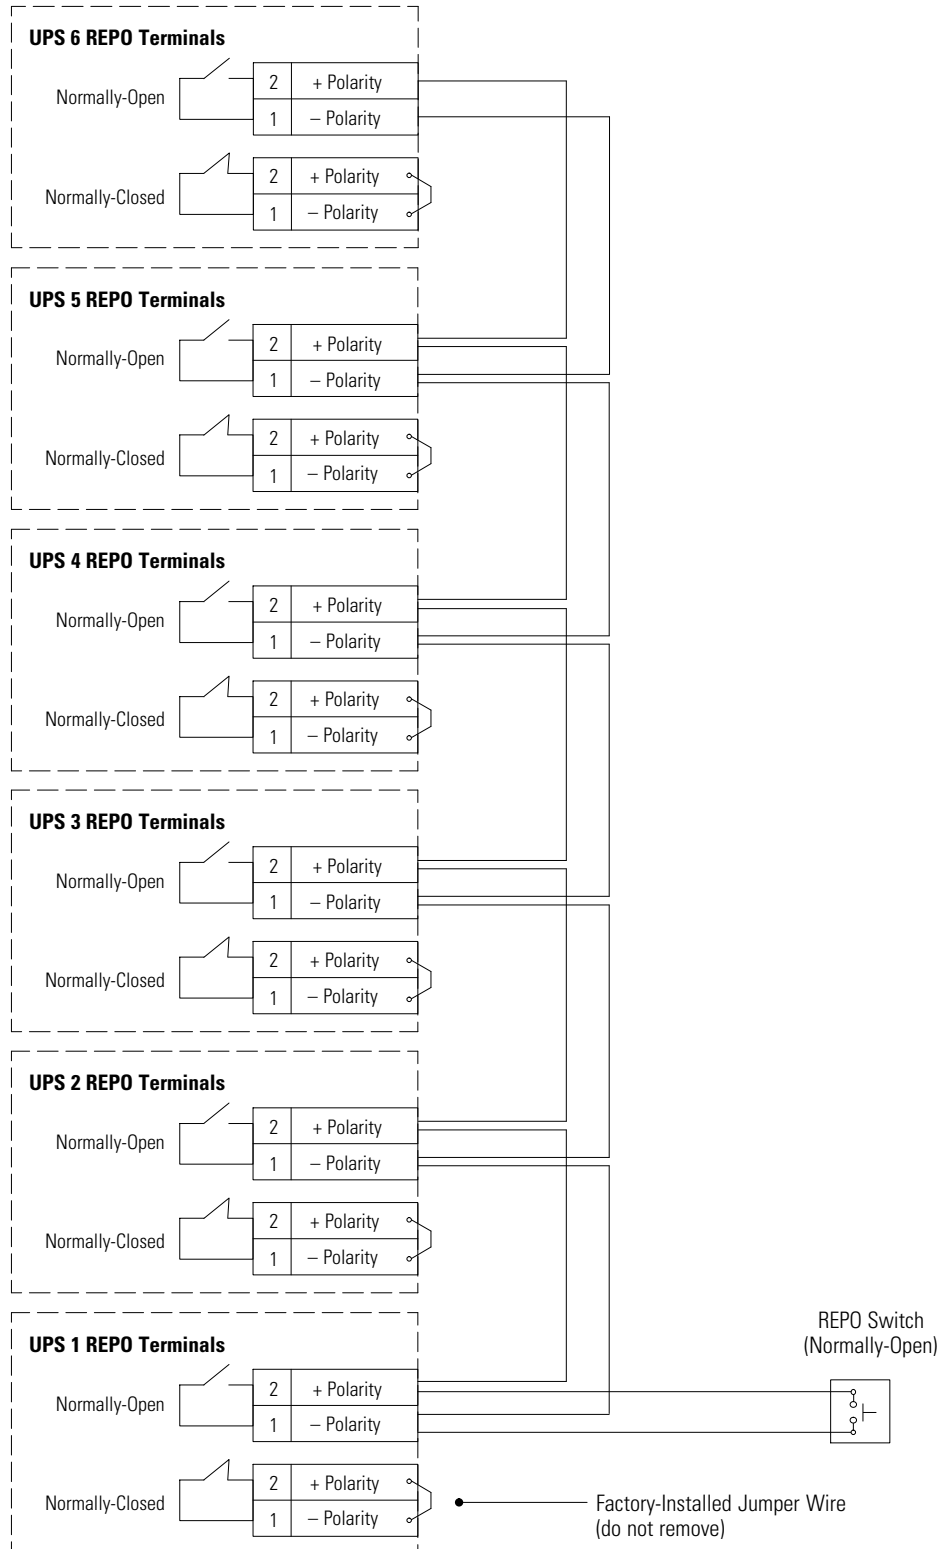
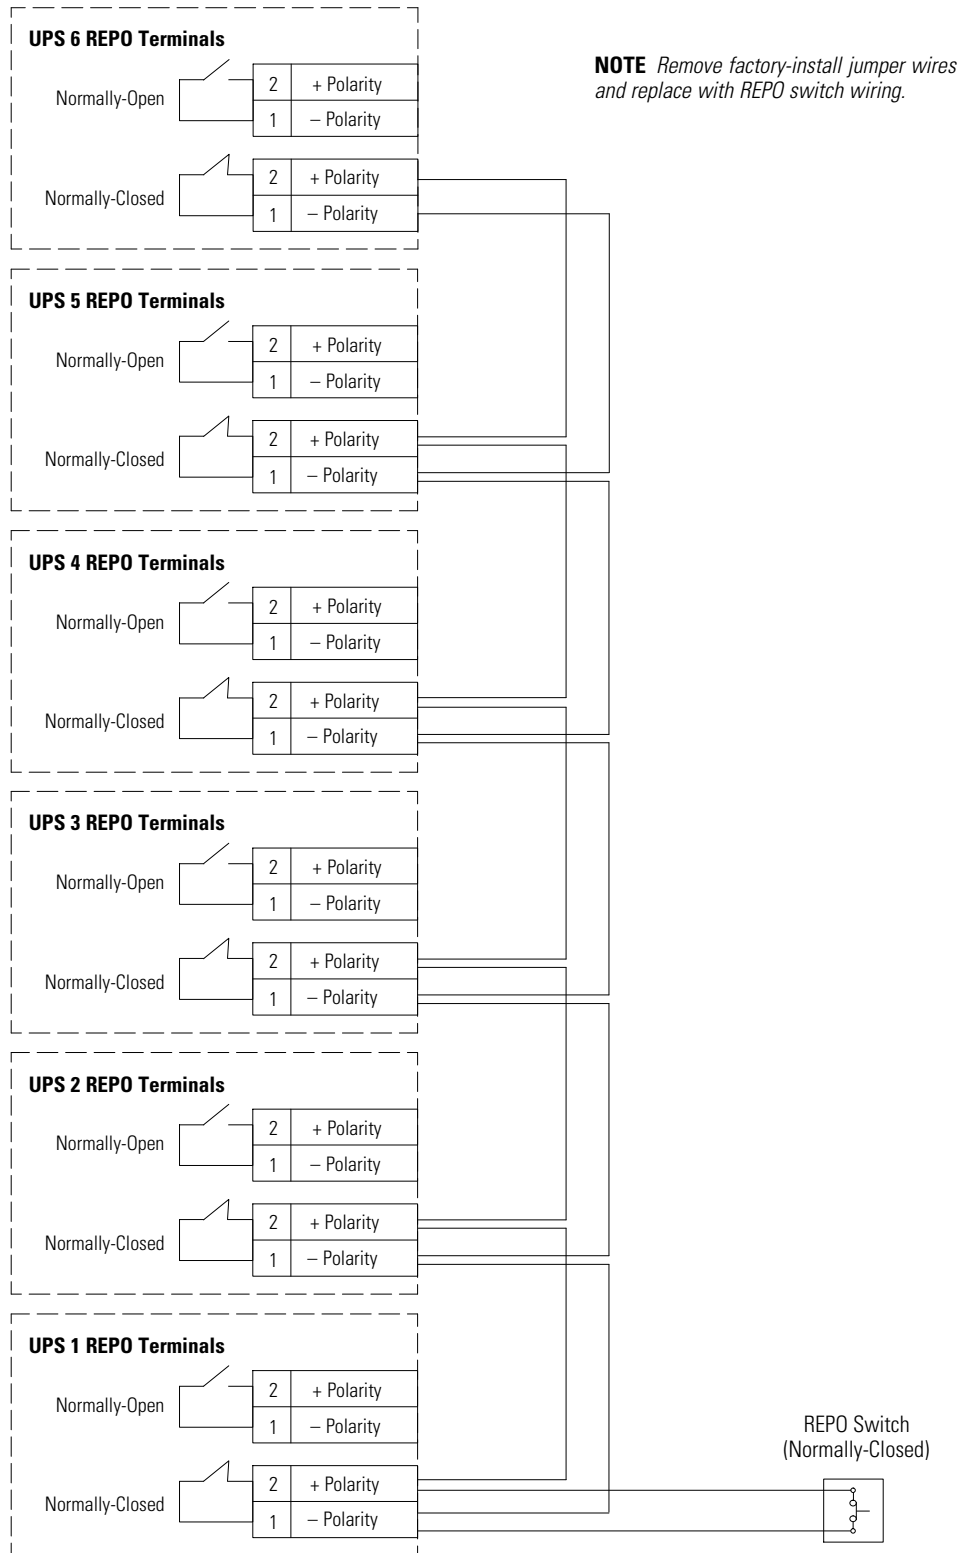

Figure 53. Normally-Open REPO Switch Wiring in a Parallel System
Figure 54. Normally-Closed REPO Switch Wiring in a Parallel System
3. Connect Pin 1 to Pin 1 and connect Pin 2 to Pin 2 of each UPS in parallel for the selected REPO contacts, then connect the appropriate external switch to the selected REPO contact. See Figure 53 for NO REPO wiring and Figure 54 for NC REPO wiring.